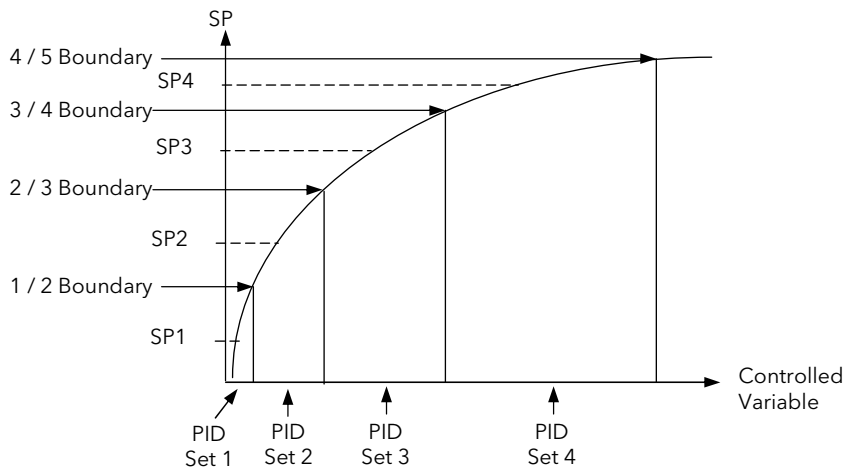

Figure 12-1: Gain Scheduling
9. Repeat the above for all PID sets. For each set, adjust the SP approximately midway between the two boundaries (Figure 12-1)